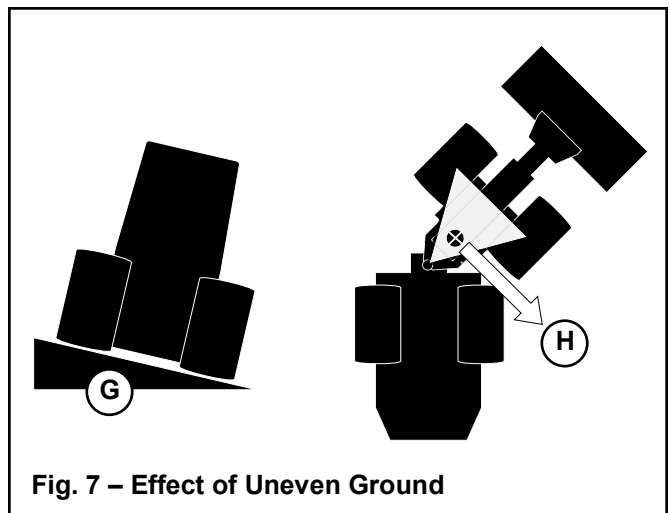

Fig. 7 – Effect of Uneven Ground
Articulated loaders offer increased traction on uneven surfaces (G, Fig. 7) because the tires follow the contours of the ground. However, the load center can shift (H) when the wheels are not contacting the ground along the same plane, which reduces stability.